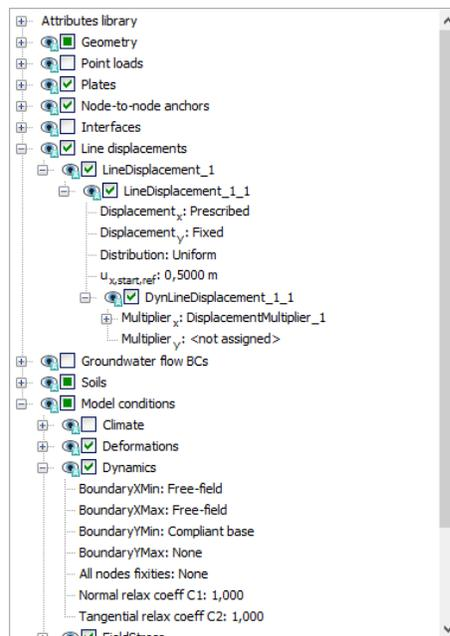

Figure 222: Boundary conditions for dynamics calculations (Phase\_4)
8. Expand the **Dynamics** subtree. Set the **BoundaryXMin** and **BoundaryXMax** to **Free-field**. Set the **BoundaryYMin** to **Compliant base** as shown in Figure 222 (on page 253).